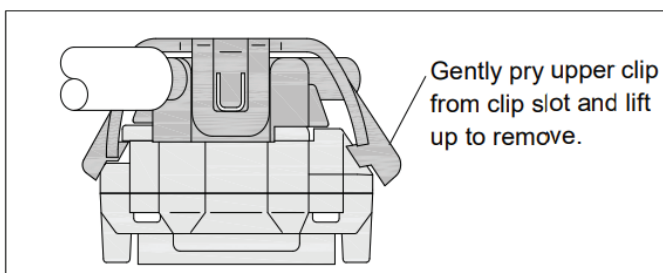

Figure 25
**5.5.2** To remove the calibration cup from the COVX, gently pry the upper retaining clip off of the COVX while lifting up on the cup as shown in Figure 25.